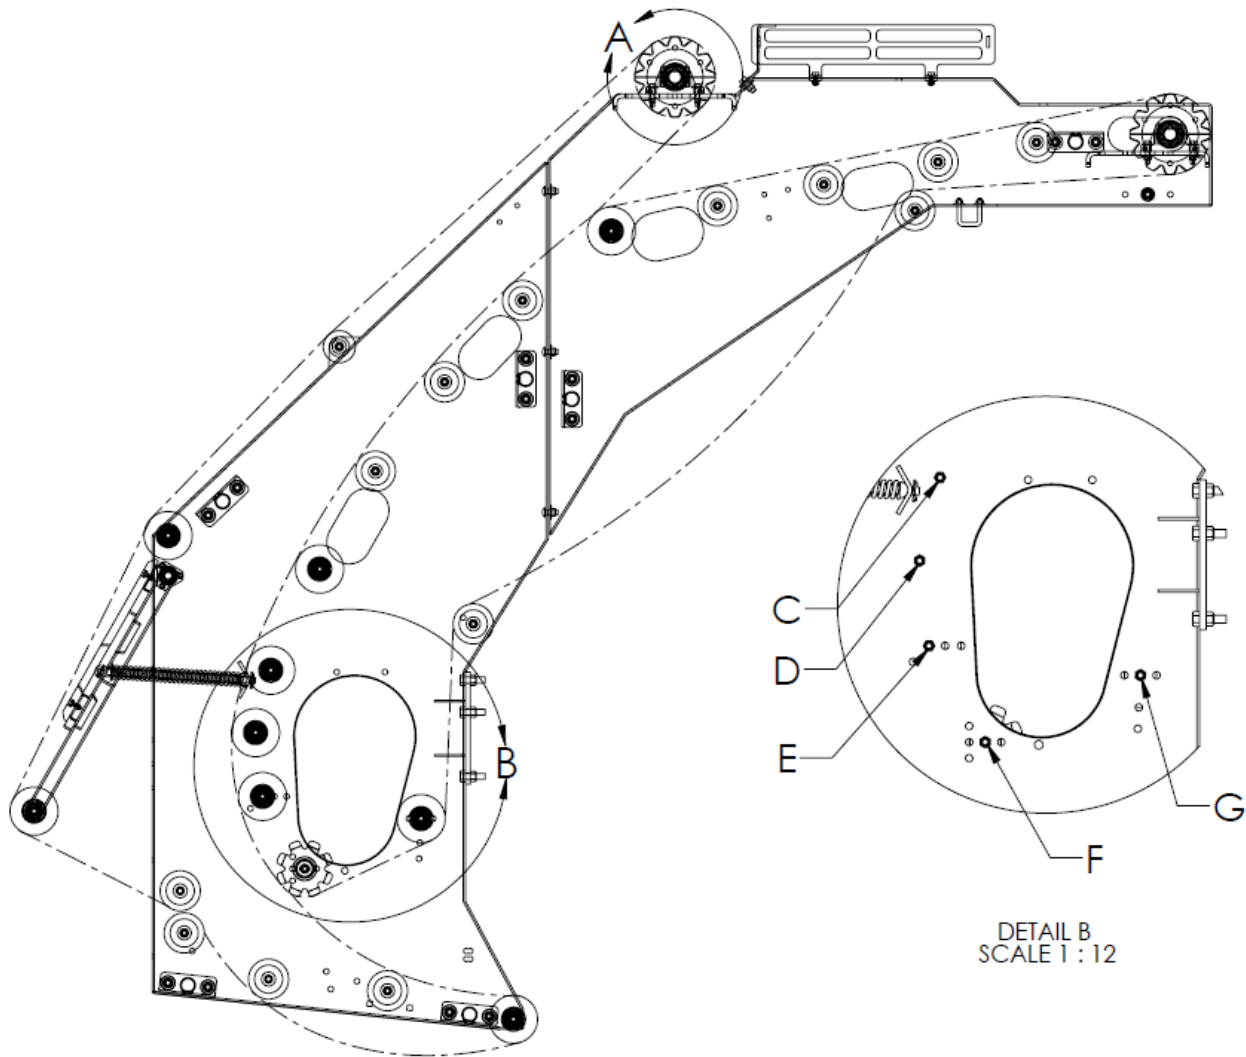

Figure 74: Rear Scrub shown with Scrub Chain, Rollers, and Head Shafts
**7.25.1 Inside Roller Location:** The inside rear scrub rollers come standard in locations C, D, E, F, and G shown in Figure 74.
The outside scrub chain tension is adjustable to increase or decrease the capacity for beets. To increase the capacity of the scrub chain, head shaft (Detail A), shown in Figure 74, must be moved back to provide more slack in the chain. To adjust the head shaft location: